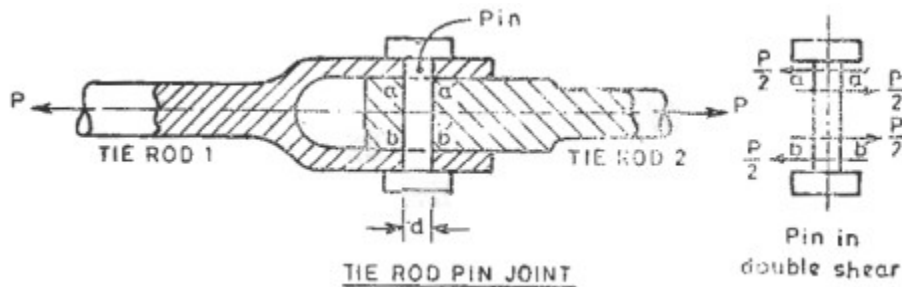

Figure 2(a)
- b) Figure 2(a) shows a two tie rods jointed through a pin of diameter d . The tie rods system transmits a tension force of 10 Kn. Determine the diameter of the pin, if the shear stress in the pin is not to exceed 100N/mm^2 .